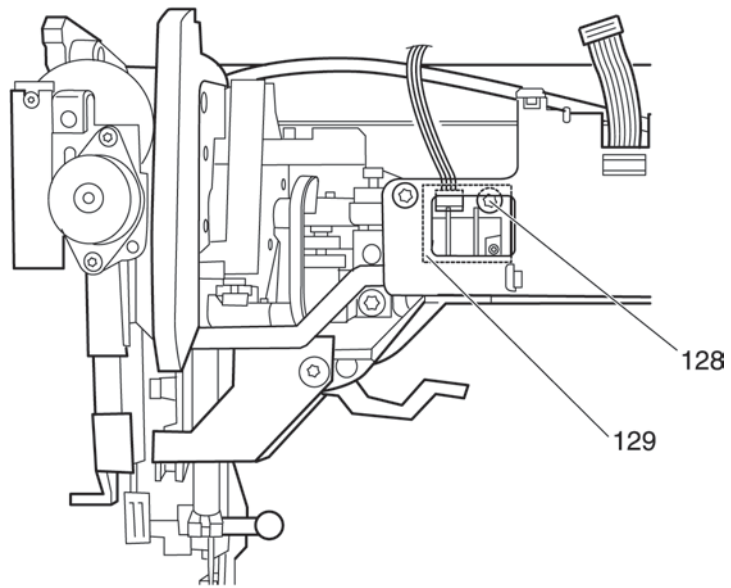

Fig. 37
- Using a Torx offset screwdriver TX 15 unscrew the fastening screw 128 of circuit board 129 (fig. 37).